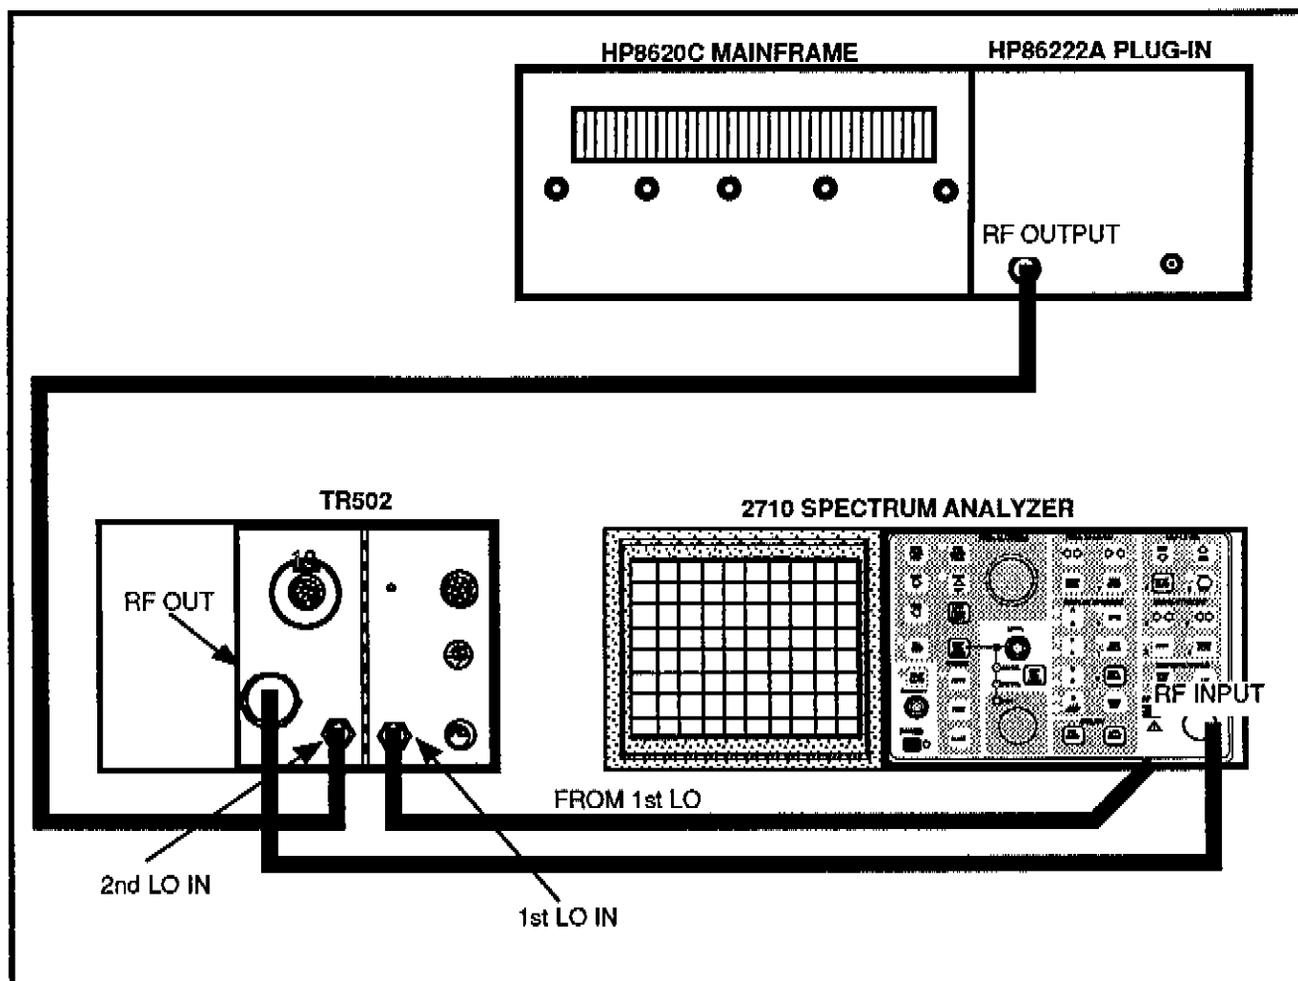

Figure 4-11. Band leveling test equipment setup.
- (1) Sweep Generator
- (2) N male to N male coaxial cable
- (3) N male to SMA male adapter
- (4) 50 Ω Semi-rigid cable
- (5) SMA female to female adapter
- (6) Tracking Generator
- a. Connect the test equipment as shown in Figure 4-11. The semi-rigid cable and SMA female-to-female adapter are used to access J300 (1st LO) on the 1st LO Buffer Amplifier, but are not needed if Option 15 is installed. When Option 15 is installed, the 1st LO is available at the rear panel of the instrument (SMA connector). The 50 Ω terminator at J300 will have to be removed for this adjustment.